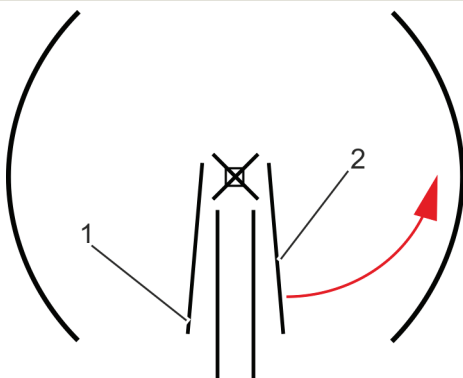

Fig. 57 Folded wings
Have one person hold the folded wing on the opposite side (Fig. 57/1).
2. Pull the folded wing (Fig. 57/2) until the wing catches.